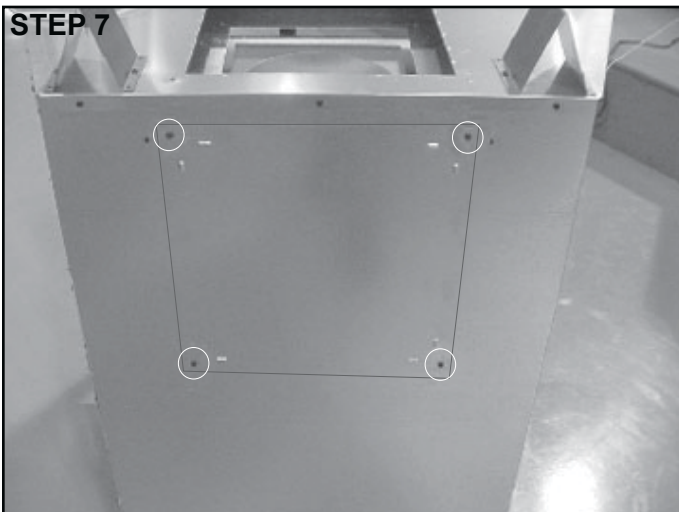
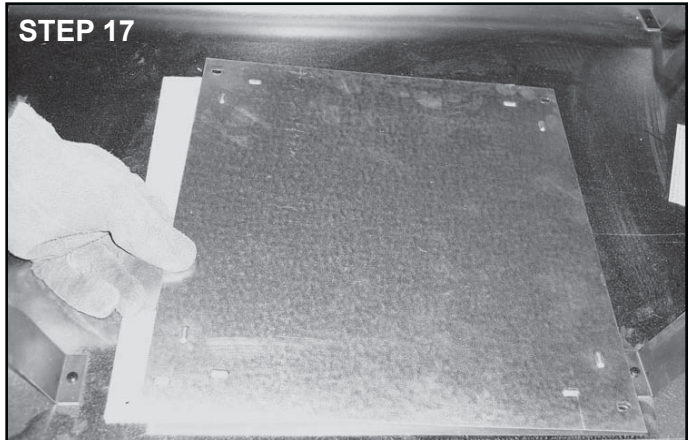
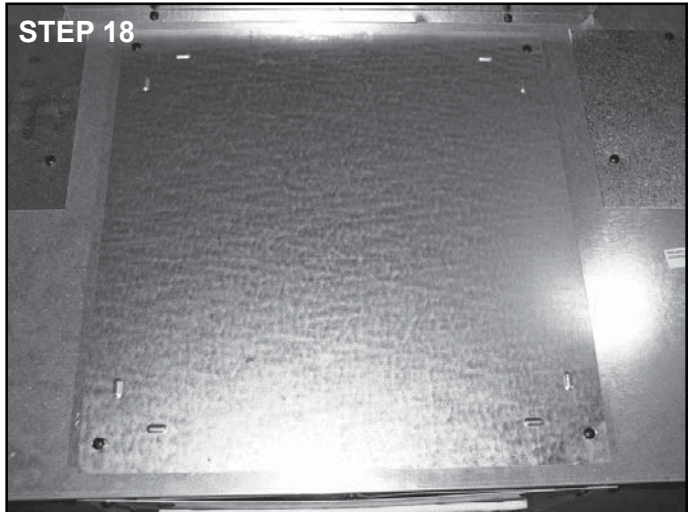

Figure 9.10 Outer Shell Cover
Figure 9.20 Place Gasket & Cover Plate on Top of Appliance
Figure 9.21 Screw Cover into Place
- Remove four screws holding outer shell cover plate and gasket from the back of unit. See Figure 9.10. Remove outer shell cover plate and gasket, set aside.
- Locate outer shell cover plate and gasket removed in Step 7 (Figure 9.10). Place the gasket and cover on top of appliance. See Figure 9.20. Replace four screws to hold plate in place. See Figure 9.21.
The diagram shows how to properly position, level, and secure the appliance (see Figure 9.20). Nailing tabs are provided to secure the appliance to the framing members.